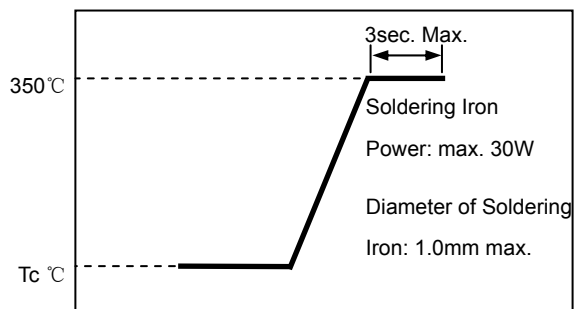

Fig. 8-2
8.2 Iron Soldering Profile (Fig. 8-2):